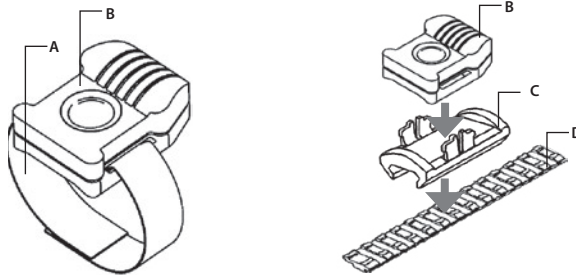

FIGURE 3-7. ADVANCED WIRELESS REMOTE CONTROL
Using Velcro tape (A, Figure 3-7), fasten the remote control (B) to your weapon in an easily accessible place (e.g., on the front of the rifle stock).